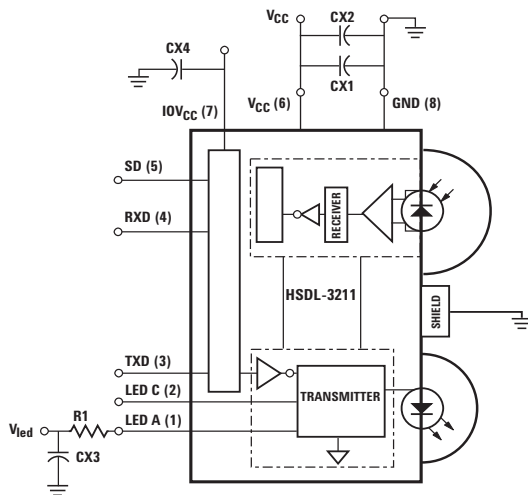

Figure 1. Functional block diagram of HSDL-3211.
11. In environments with noisy power supplies, including CX2, as shown in Figure 1, can enhance supply ripple rejection performance.